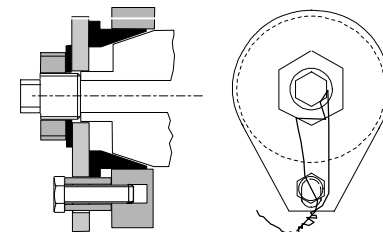

Fig. 3a
- 4.1 As an extra precaution, the locking plate must be fastened with a locking screw to the equipment. Use the clamping screw protector to ensure that the locking plate is not bent when tightening the locking screw (see Fig. 3a and 3b).